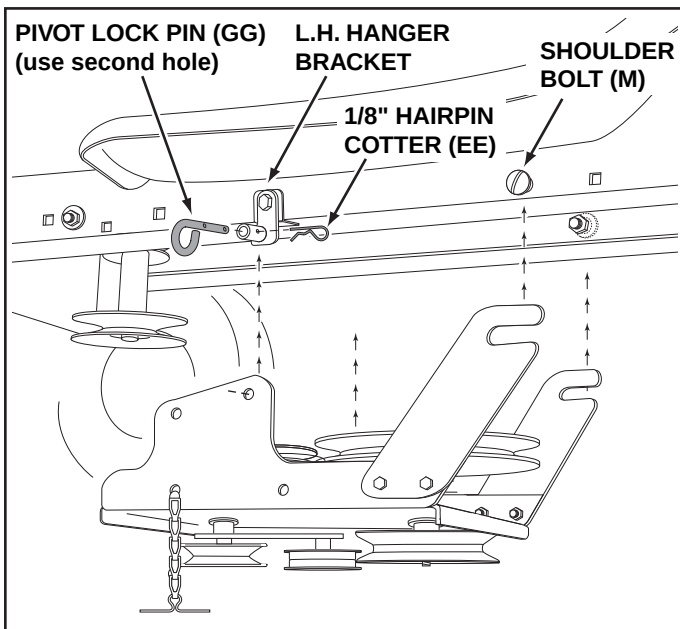

FIGURE 18
STEP 19: (SEE FIGURE 18)
- Attach the clutch/idler assembly to the tractor frame. Hook the notched suspension arms onto the two shoulder bolts (M) assembled to the outside of the tractor frame. Lift the front of the assembly and attach it to the R.H. and L.H. hanger brackets using two pivot lock pins (GG) and 1/8" hairpin cotters (EE).